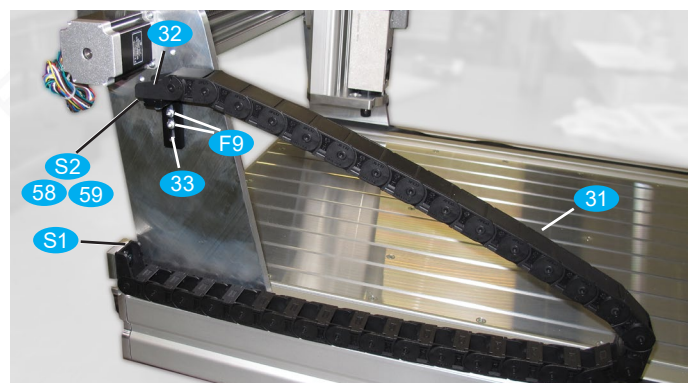

Fig. 37: Assembly of the drag chain for the Y axis
- Mount the mounting bracket 33 with flat-head screws F9 on the right portal plate, as shown in Fig. 37.
- Hang the Y-drag chain in the connection kit and fasten the free end to the rear face plate using the connection kit and countersunk screws S1, as shown in Fig. 37.